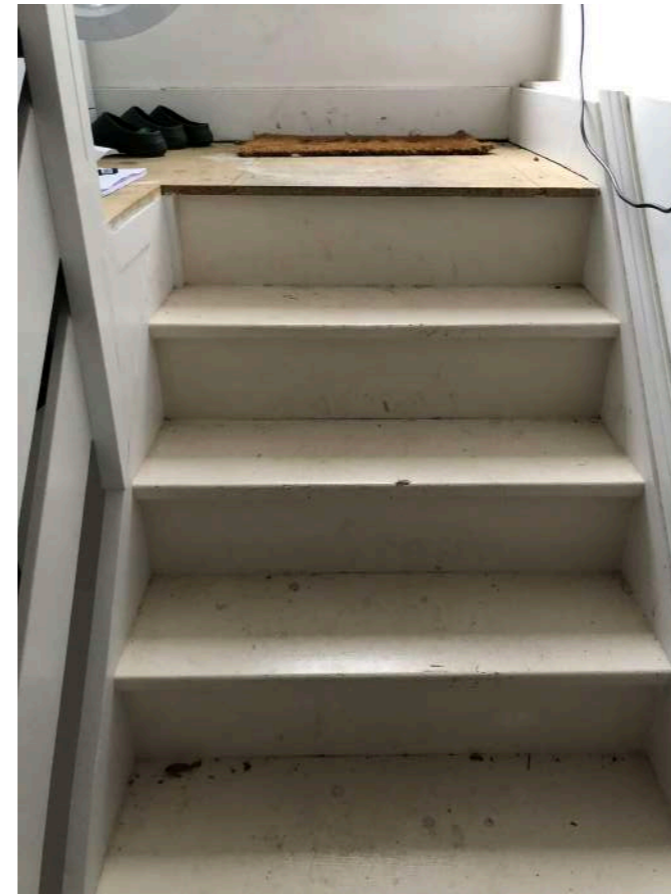

Fig. 5. Existing painted timber stairs and square MDF skirting
- Remove existing tread finishes on stairs from principle floor to existing roof extension. Stair finishes are deemed not to be original or in keeping with the character for the flat (Fig. 5).